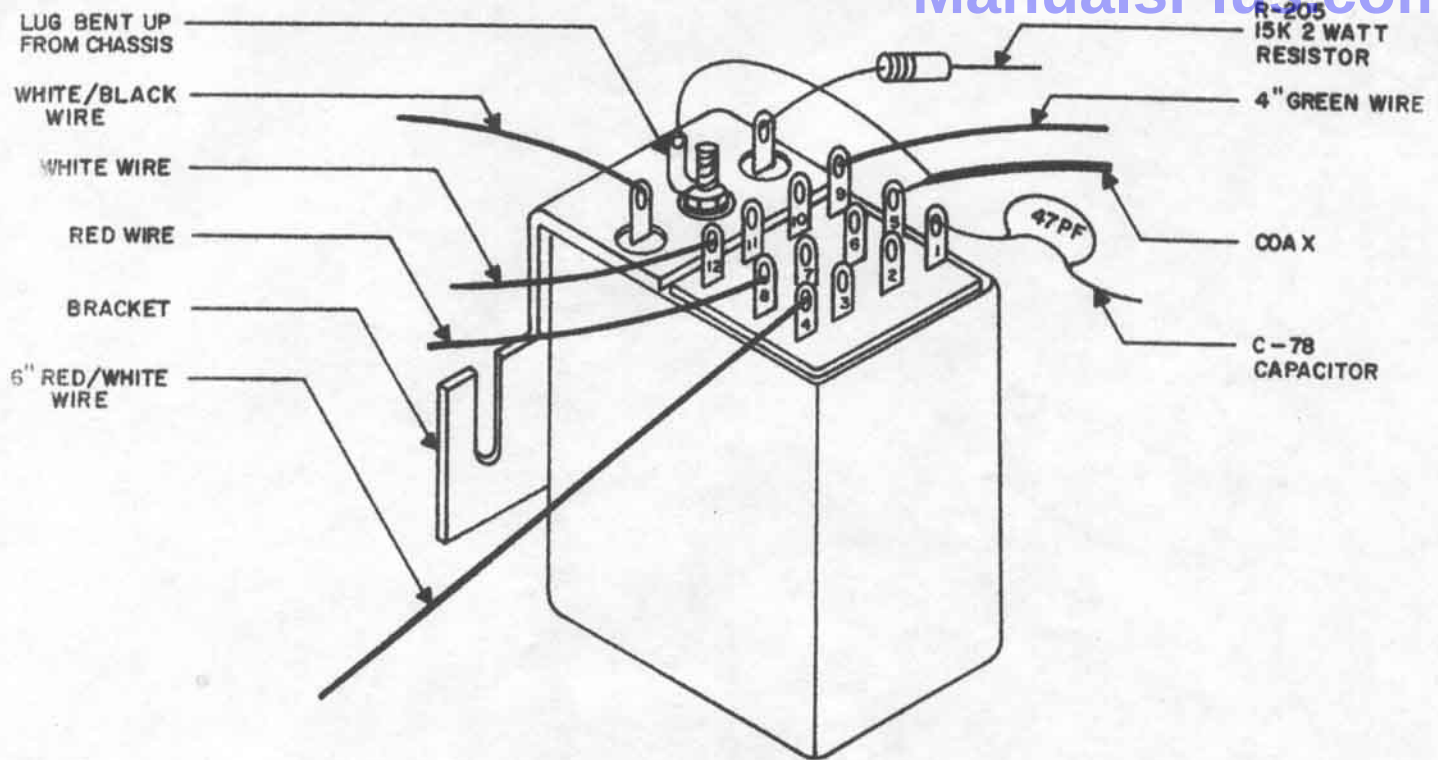
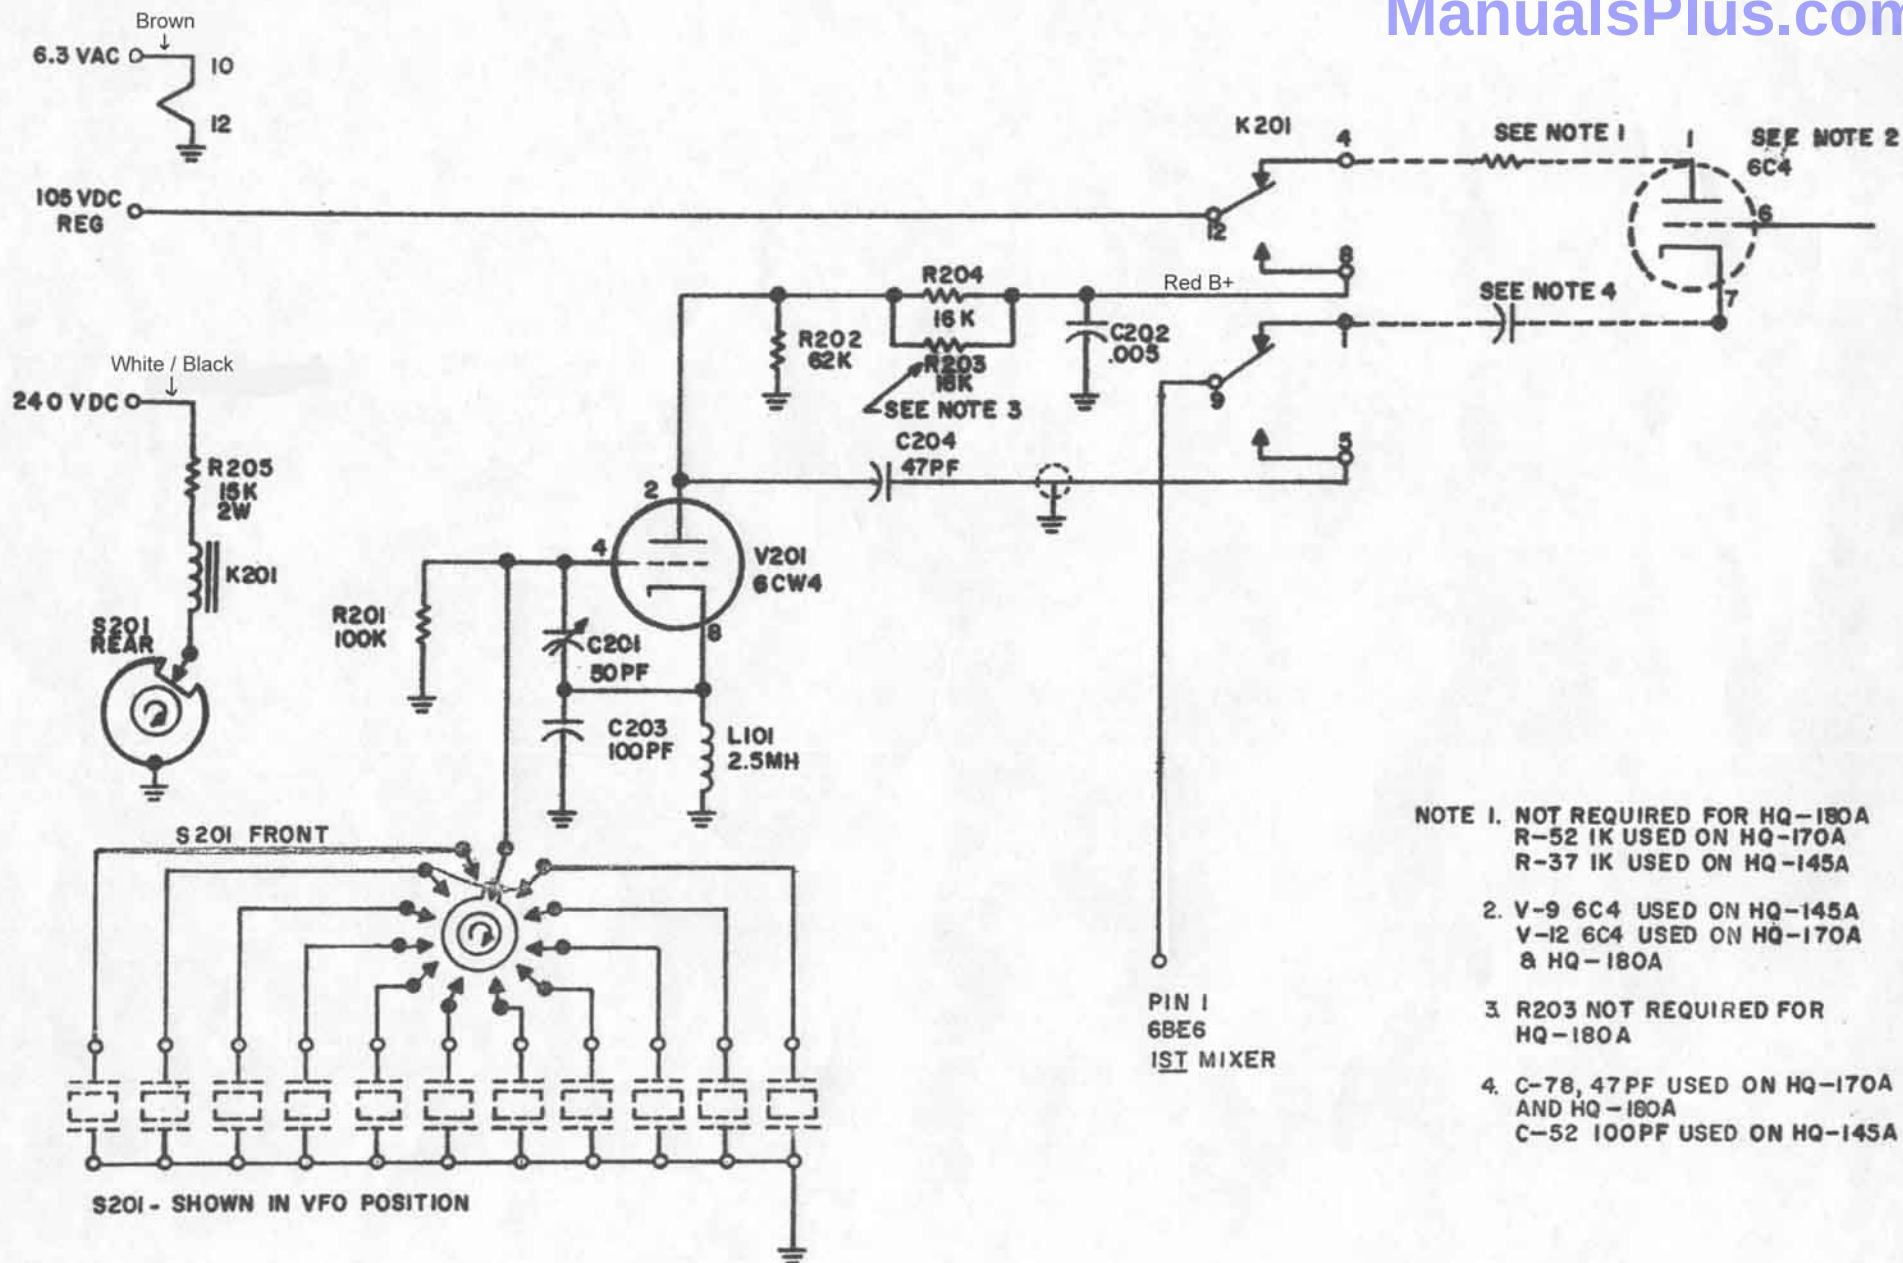

FIGURE 3. PICTORIAL WIRING DIAGRAM, K201 RELAY HQ-180 SERIES
FIGURE 5. SCHEMATIC DIAGRAM, FIXED FREQUENCY CRYSTAL OSCILLATOR
- If in any doubt, check figures 3 and 4, or schematic diagram figure 5.